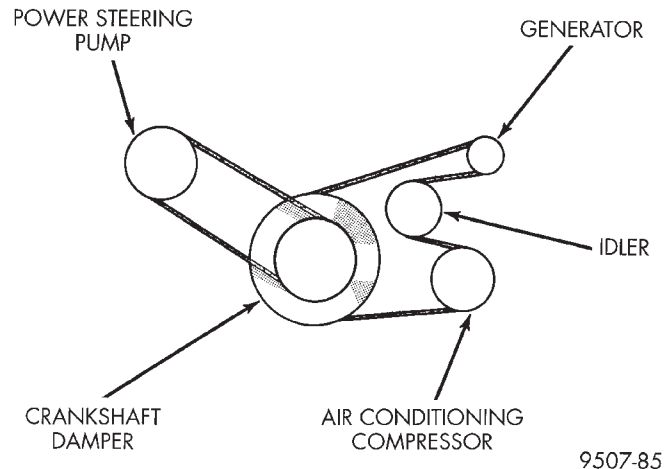

Fig. 48 Accessory Drive Belt Routing—2.5L Engine
- (1) Refer to (Fig. 48) for belt routing.
- (2) Install drive belt on pulleys.
- (1) Install belt. Refer to (Fig. 48) for belt routing.